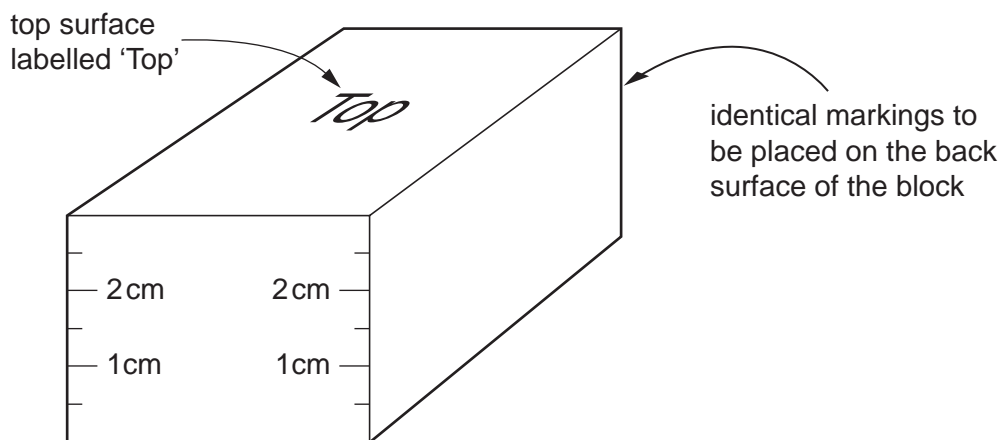

Fig. 1.1
- (iv) Each corner of the block should have a scale having 5 mm divisions marked on it with a thin permanent marker pen or biro. This is shown in Fig. 1.1.